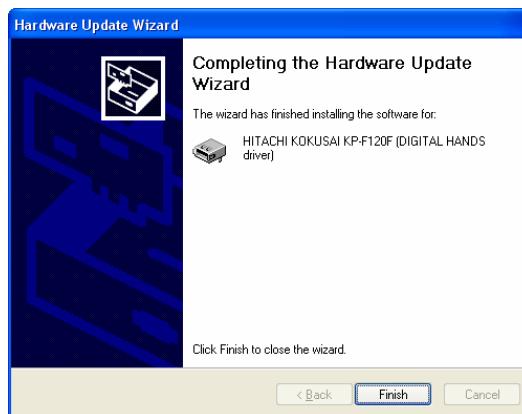

fig 2
- ④ You click “Update”button, on the connected of the “Properties”, so it shows“Hardware Update Wizard”, and then choose “Install from a list or specific location [Advanced]” after that click “Next” button.
- ⑤ It shows “Please choose your search and installation options.” in the box, so choose “Don't search. I will choose the driver to install.” and then click “Next” button.
- ⑥ Choose “HITACHI KOKUSAI KP-F120F [DIGITAL HANDS driver]” on the list of “Models” and then click “Next”.
- ⑦ After a while, it shows “fig2”. Confirm to see “HITACHI KOKUSAI KP-F120F [DIGITAL HANDS driver]” and click “Finish” button. It will be finished.